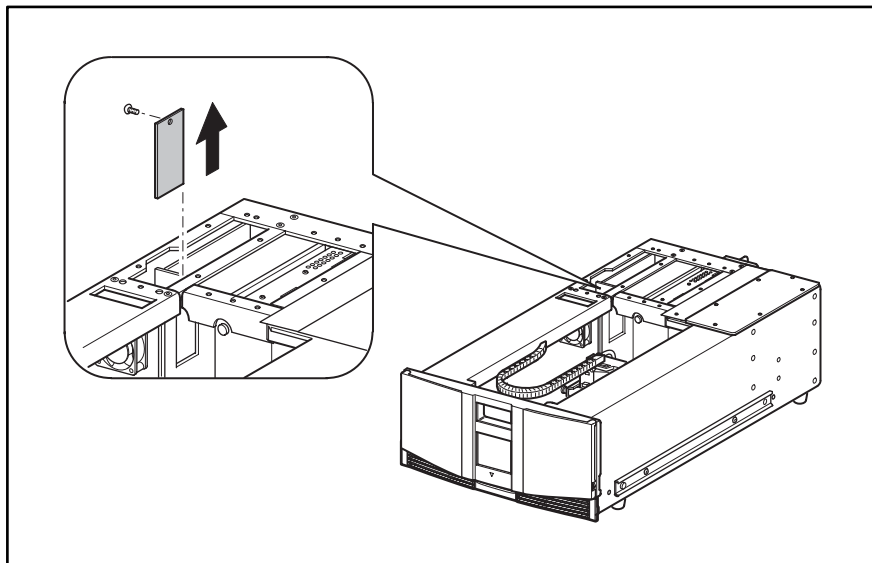

Figure 2-23: Removing the card cage/backplane assembly access plate
5. If removed, replace the card cage/backplane assembly connector access plate (see Figure 2-23).
8. Remove the screw from the card cage/backplane assembly connector access plate and then lift the access plate out of the library (see Figure 2-23).